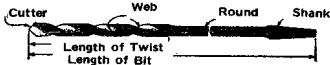

FIGURE 5. Installer's Drill. (Bell Hanger Bit)
- 3.01 The installer's drill (Figure 5) consists of a bit stock shank and long round provided with a short twist drill. The drill point is ground at an angle suitable for drilling in wood in which nails, screws, sheet metal or metal lath may be encountered as well as drilling through plaster walls. It is available in 5 sizes ranging by 1/8 of an inch from 1/4 inch to 3/4 inch in diameter. In general, the size of the drill is impressed on the round in thirty-seconds of an inch. All sizes, as listed below, are intended for boring holes where a variety of conditions may be encountered in connection with inside wiring and installation work.